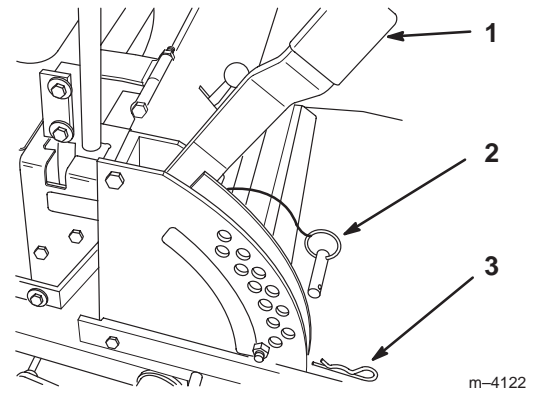

Figure 22
1. Raise the height-of-cut lever to the transport position (also the 4-1/2 inch [114 mm] cutting height position) (Fig. 22).
2. To adjust, remove the hairpin cotter and clevis pin from the height-of-cut bracket (Fig. 22).
3. Select the hole in the height-of-cut bracket corresponding to the height-of-cut desired, and insert the clevis pin (Fig. 22).
4. Secure the clevis pin with the hairpin cotter (Fig. 22).
5. Lower the height-of-cut lever onto the clevis pin (Fig. 22).